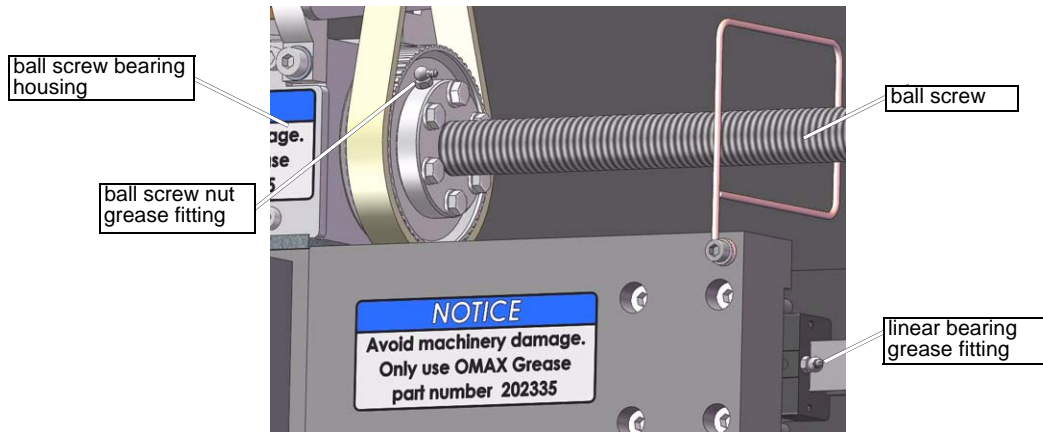
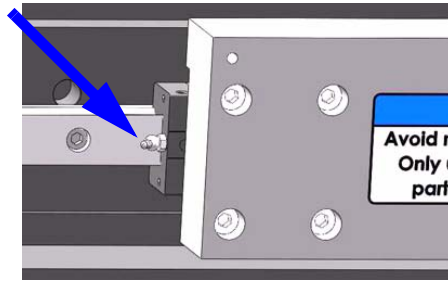

Figure 6-20: Grease Fittings for the 80160 Ball Screw Bearing Housing and Linear Bearing
Figure 6-22: Grease Fitting for Lubricating the 2nd X-axis Linear Bearing
2. Position the Y-axis until the ball screw nut appears inside the oval access hole (Figure 6-20):
4. Again, move the Y-carriage until the other end of the ball screw bearing housing (Figure 6-20) is positioned in front of the access window with its zerk grease fitting accessible (Figure 6-22).
6. Locate the second linear bearing for the X-axis rail (Figure 6-22) and grease it appropriately. Repeat this for the same bearings on the opposite side of the tank.